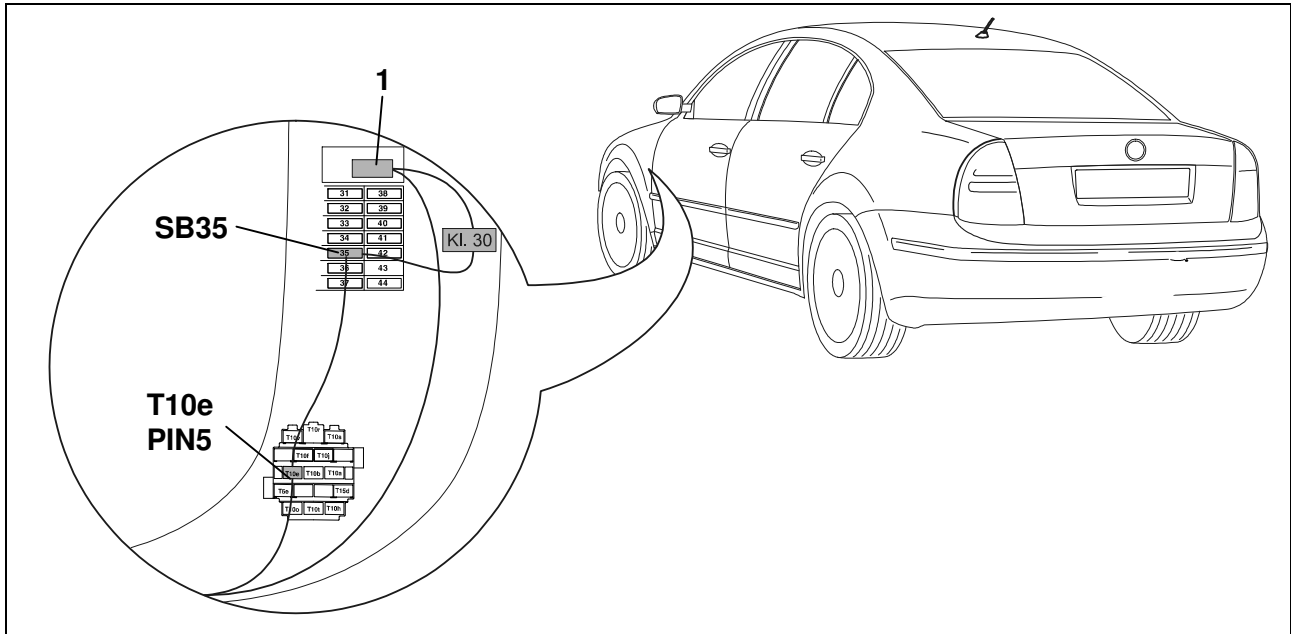

Fig. 2: Installation Overview
15. Connect the short red cable (continuous voltage) to pin 5 on terminal T10e (Fig. 2).
18. Connect the second cable end to fuse block SB 35 (Fig. 2).
19. Set up a connection from terminal T10e, pin 5, to fuse block SB 25 (Fig. 2) using the second single red cable. Insert a 30A fuse in position 35.
20. Connect the eyelet to connector 30a (Fig. 2).